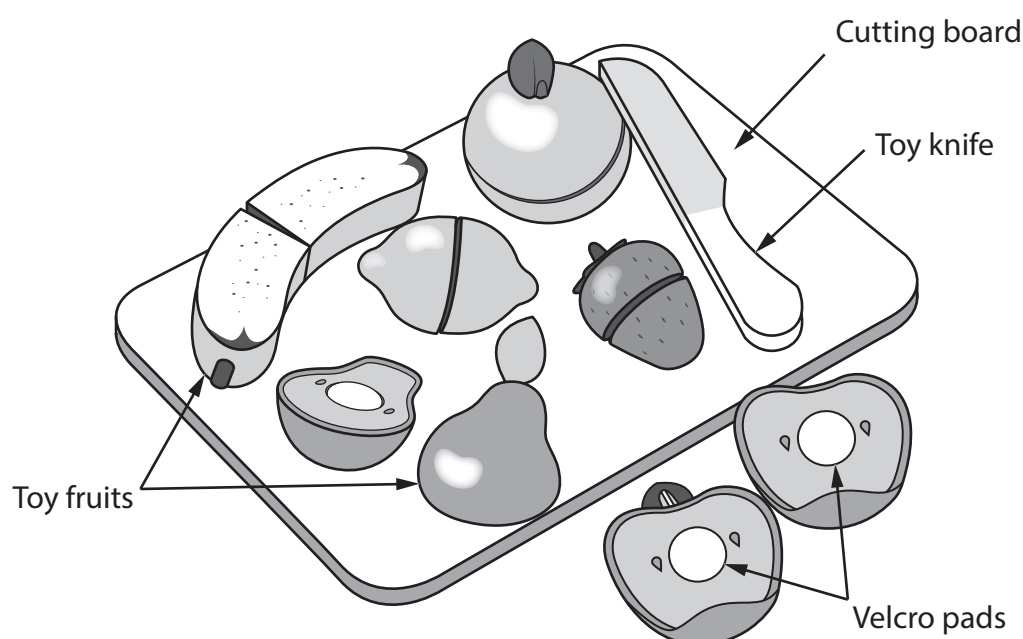

Figure 10
- (b) Figure 10 shows a food play set. The toy fruits are manufactured from a felt covered polymer.